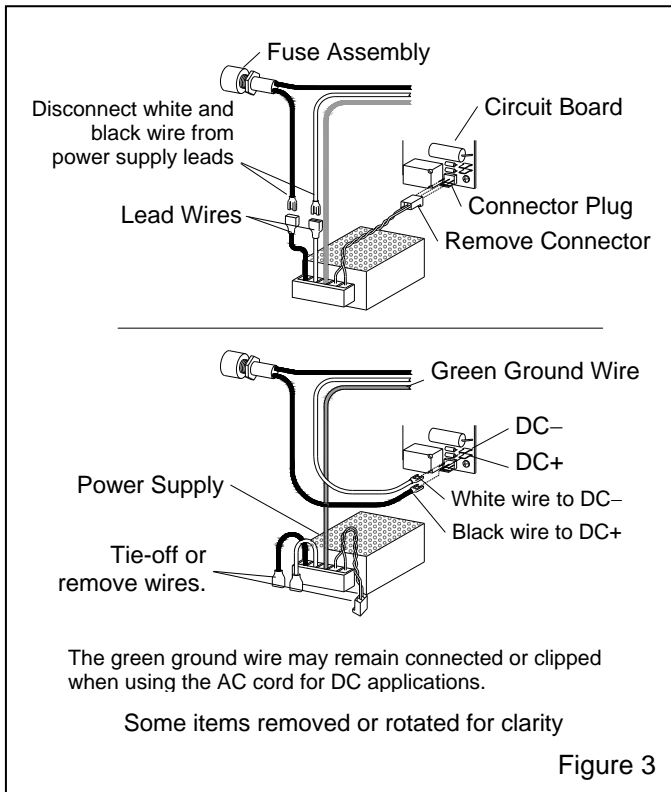

Figure 3
The AC power cord provided with the monitor may be used, using "black" as the positive. A user supplied DC 2-wire cord may be used, using "red" as positive. If a new 12-volt cord is used, splice the positive through the fuse, and use the spade on the outlet of the fuse to connect to the positive terminal, as shown Figure 3.
2.3.5 Remove the connector with red and black wires from the plug on the circuit board, as shown in Figure 3. If there is a chance the monitor will be converted back to AC power, tie the wires out of the way. If the monitor is to be permanently converted to 12-volts, pop off the clear terminal cover and remove the wires from the terminal.
2.3.6 Disconnect the "white" and "black" wires from the power supply lead wires at the connectors, as shown in Figure 3.
2.3.7 Plug the "black" wire onto the "DC+" post at the lower left corner of the circuit board, as shown in Figure 3.